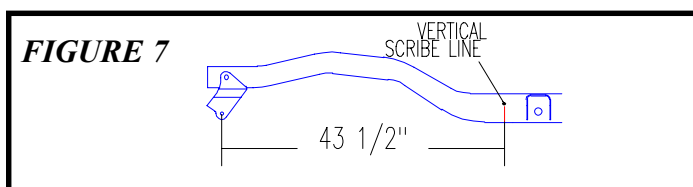

FIGURE 7
- Measure from the center of the lowest hole in the DRV side front mount bracket to a point on the DRV side frame rail 43 1/2" (43.50") back as shown in *figure 7*.
- Mark the frame at 43 1/2" (43.50") as shown in *figure 7*.